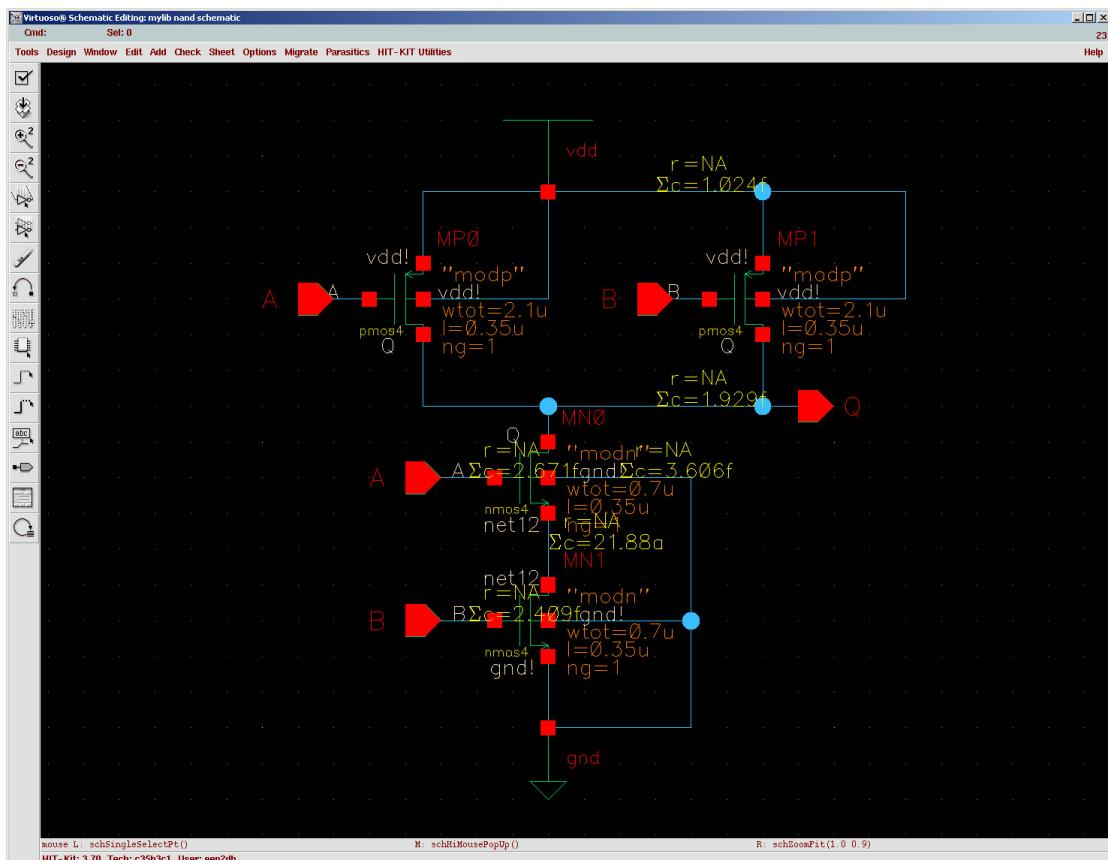

Figure 61. Back Annotation of Parasitics in the NAND Gate Schematic
17. Back in **Virtuoso Schematic Editor**, click **Parasitics**, then **Show Parasitics**. You will notice that your schematic now shows the sum of the capacitive elements for the four major nodes of the circuit as shown in Figure 61. The resistive elements will not be enabled at this time in this view. This process is called “back annotation.”